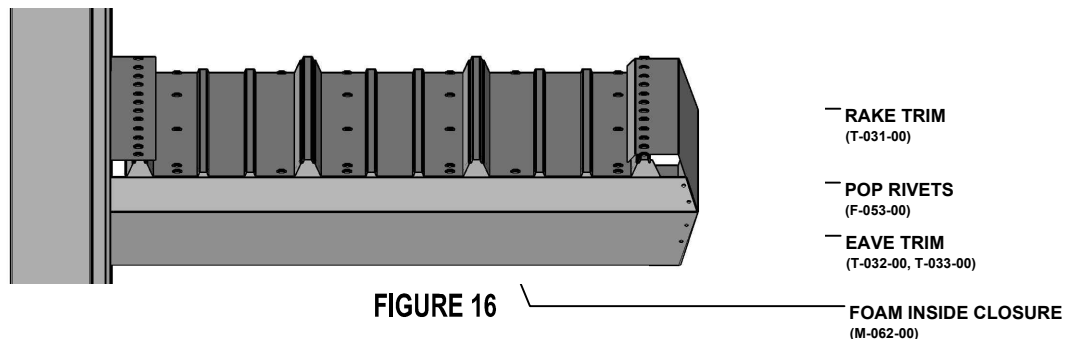

FIGURE 16
5. Measure the distance from the Rake Trim to the wall panel to determine the length of Right/Left Eave Trim. Notch around panel ribs as required to fit tightly against the wall. Cut each side separately due to wall panel rib locations. Align the center line of the trims and attach the Eave Trim to the Rake Trim using Pop Rivets (F-053-00), (4) per connection. Install a Foam Inside Closure on top of the Eave Trim and under the Roof Panel. Square the Eave Trim with the Roof Panel and install Structural Roof Screws through the Roof Panel, Eave Trim and Horizontal Channel.
6. Cut a piece from the Eave Filler (T-035-00) to fill in the gaps shown in Figure 16. Attach with Pop Rivets or Stitch Screws from below.